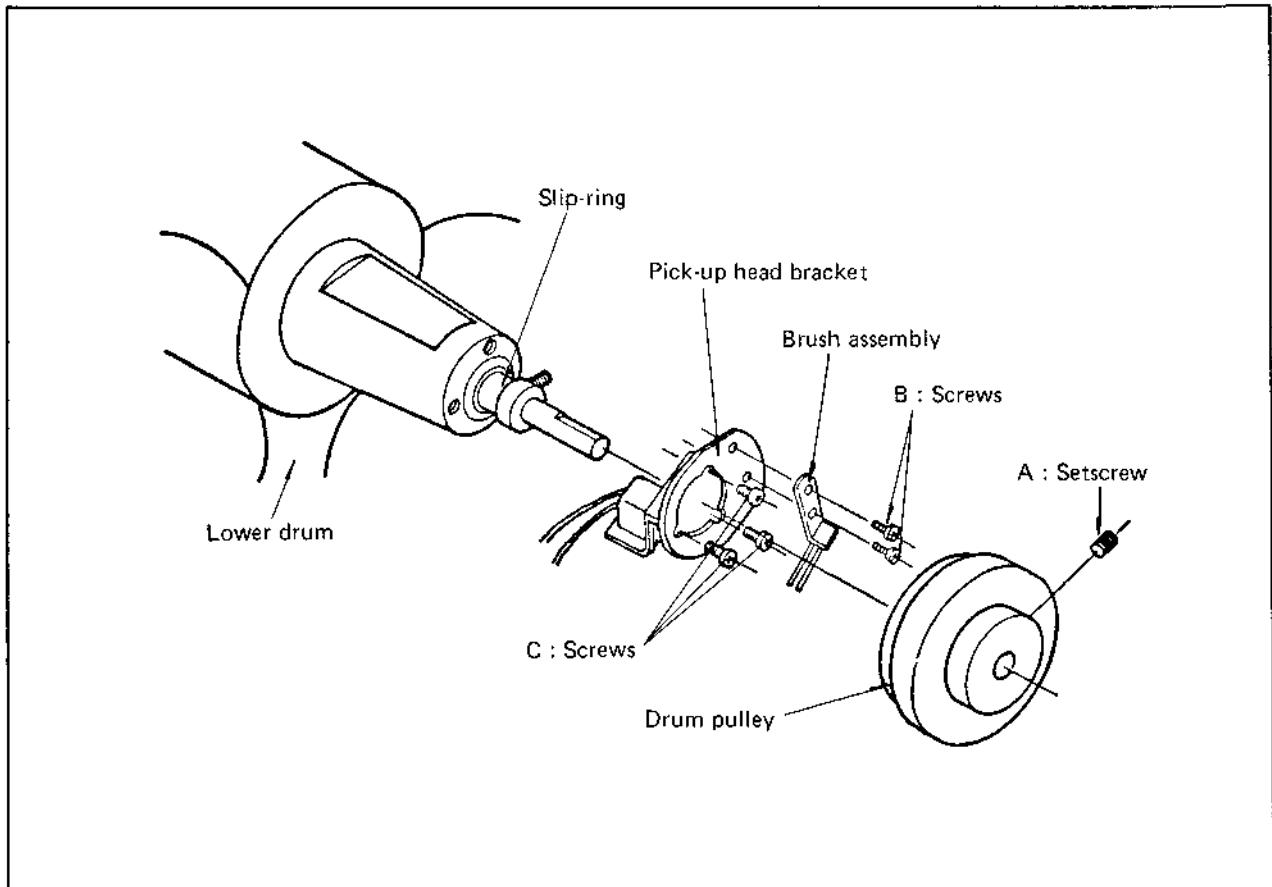

Fig. 4-43
1. Loosen setscrew A (Fig. 4-43) and remove the drum pulley.
1. Mount (new) brush assembly to the pick-up head bracket with 2 screws B (Fig. 4-43), but do not tighten the screws.